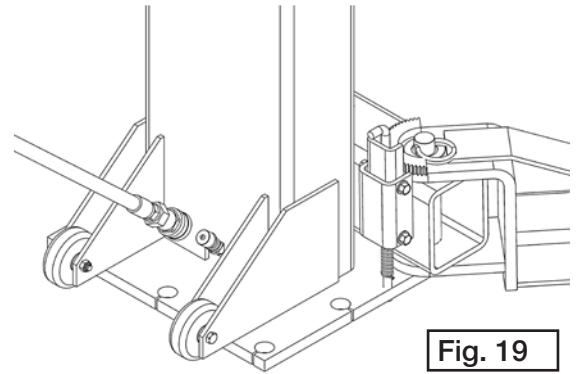

Fig. 19
6. Connect the free end of each cylinder hose assembly to the quick disconnect fitting at the base of each cylinder. (See figure 19)